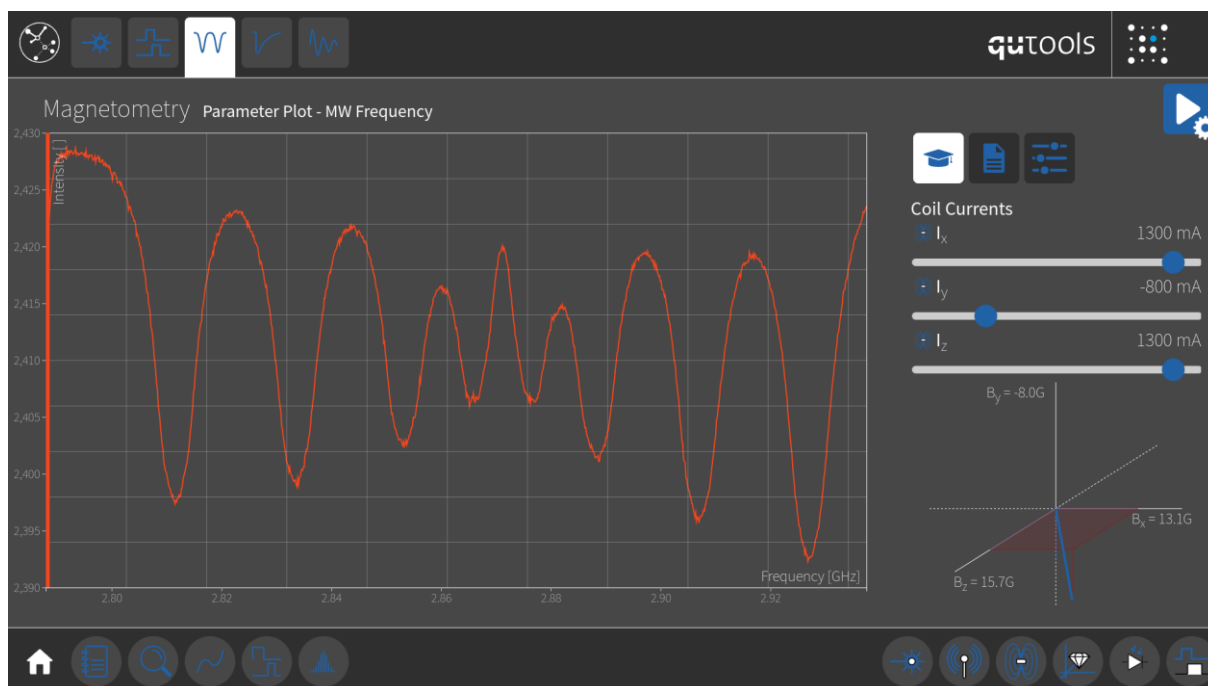

Figure 11 - Up to 8 distinct dips can be seen with the right settings for the magnetic field coils.
- Manipulate the current through the coils to generate a magnetic field. Observe the effect this has on the spectrum of the NV centers. Move one slider after the other and see the differences between the directions. Because of the 4 possible directions of NV centers in the diamond lattice, one can observe up to 8 distinct dips in the spectrum (Figure 11).